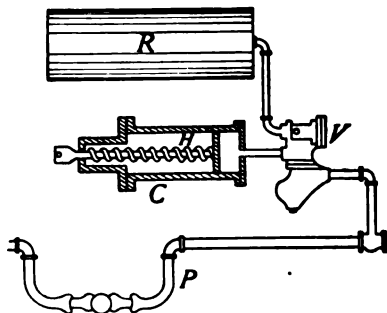

FIG. 50.—Cross-section of a Westinghouse air brake.
**68. The Air Brake.**—Compressed air is used to do work in many machines, such as pneumatic drills, hammers, and air brakes. The Westinghouse air brake (Fig. 50) uses air at a pressure of about 70 lbs. to the square inch. The essential parts as shown are a reservoir *R*, the brake cylinder *C* and a triple valve *V*, placed under each car with an air pipe *P*, leading to the engine. This is connected to *R* by the triple valve *V*. When the pressure in *P* is reduced by the engineer or by accident, the triple valve operates so as to admit air from *R* into the cylinder *C* pushing the piston *H* to the left. *H* is connected to the brakes by levers which press the brake shoes strongly against the wheels. When the air pressure in *P* is restored the triple valve acts so as to permit the air in *C* to escape while *R* is filled again from *P*. The hissing sound heard when a train stops is caused by air escaping from cylinder *C*. The